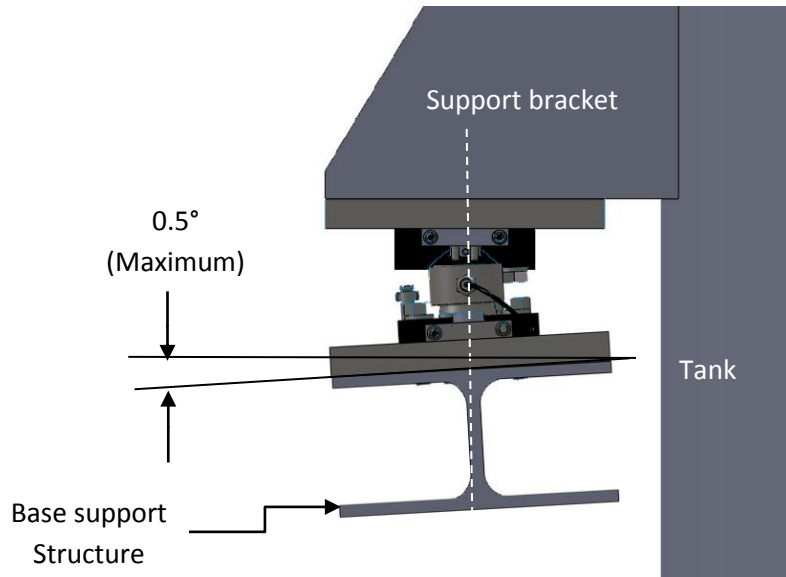

Figure 08 : Deflection limits of base support
- The base support structure for the weigh modules should not twist or deflect more than 0.5° degree out of level at full capacity(See figure 08).